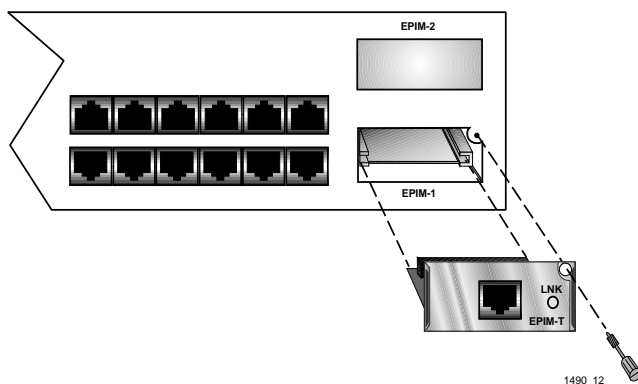

Figure 3-8. Installing an EPIM
- Slide the new EPIM into place, making sure that the connectors on the rear of the EPIM align correctly and firmly with the connector inside the SEH. Refer to Figure 3-8.